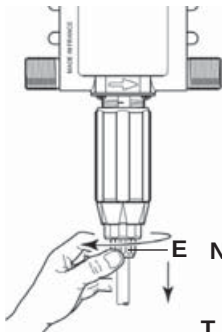
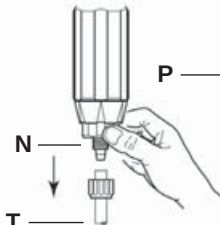

Fig. 15
Fig. 16
- Unscrew the nut (**Fig. 15-E**) and pull downwards to remove the suction tube (**Fig. 16-T**).
- Unscrew and remove the nut (**Fig. 16-N**).